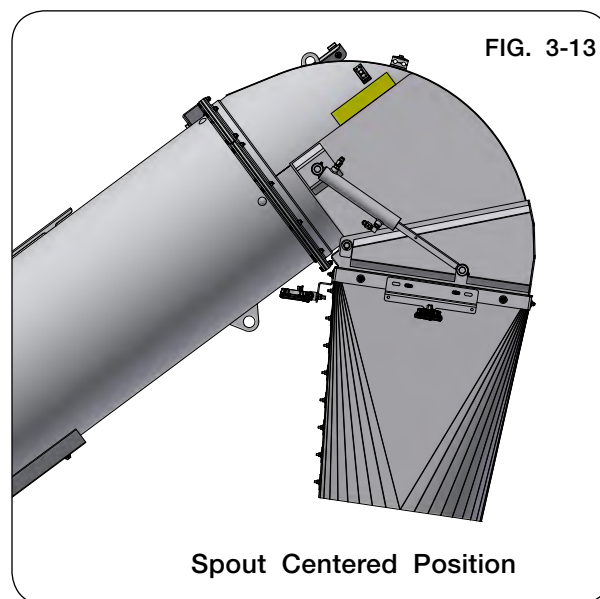

FIG. 3-13
7. After PTO has come to a complete stop, align the checkered flag decals to locate center as shown in FIG. 3-13.